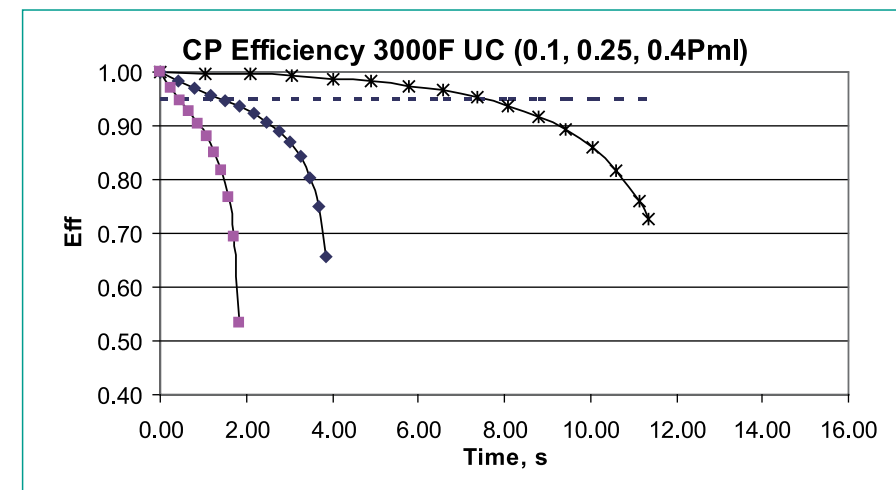

Figure 2: Ultracapacitor Constant Power Discharge Time for >95% Efficiency (8s at 0.1Pml, 2s at 0.25Pml, 1s at 0.4Pml).
a value proposition when combined with a lithium pack of 95% to 90% efficiency over a wide range of loading. Analysis shows that today's Ultracapacitors, possessing ultra-low ESR and hence high efficiency at relatively high power levels, can indeed deliver such efficiency. Figure 2 is the result of such analysis for a typical Ultracapacitor cell undergoing constant power testing. The result is 95% or better efficiency for pulse time intervals ranging from 8s at 10% of matched load power, P_{ml} , to 2s at one fourth P_{ml} , to 1s when the power loading is 40% of P_{ml} . Matched load power is defined in (1) and results when the terminal load equals the cell (or pack) internal resistance, ESR.
Another observation made from Figure 2 is that the efficiency curve at constant power drops significantly as power level is increased. This is due to the fact that for a fixed power demand, the Ultracapacitor internal potential (i.e.,
Energy efficiency under high loading conditions is summarized in Table 1 and shows that at matched load power levels half the stored energy is dissipated internally and half delivered to the load (i.e., efficiency is 50%). For constant power levels well below matched load conditions the Ultracapacitor efficiency trends toward 100% and for cells designed for passenger vehicles the overall efficiency will be as shown in Figure 2, in the range of 95% to 98%.